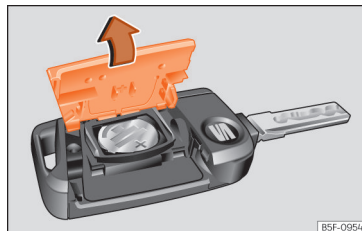

Fig. 80 Vehicle key: opening the battery compartment cover.
- Remove the cover from the back of the vehicle key »» Fig. 80 in the direction of the arrow »» ❶.
- Fit the cover as shown »» Fig. 80, pressing it onto the vehicle key casing in the opposite direction to that shown by the arrow until it clicks into place.